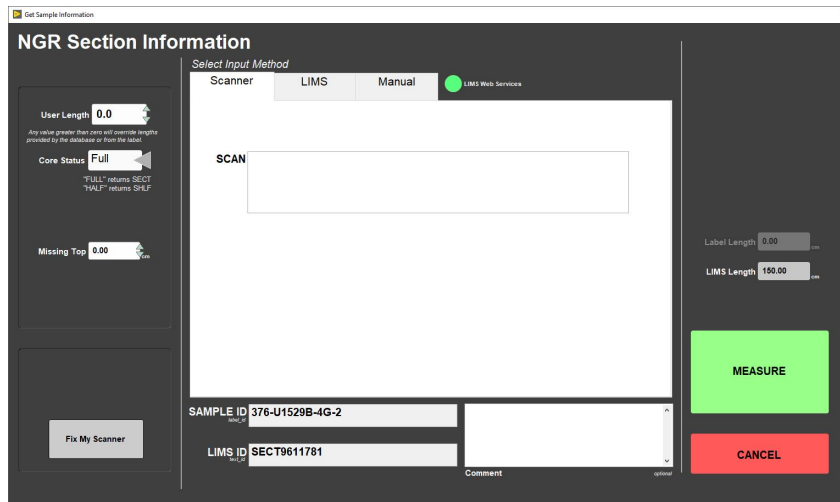

Figure 30. NGRL Core Analyzer Screen, Ready to Start Scan.
3. Open NGR Core Analyzer (Fig. 30), which is usually found on the NGR's workstation desktop. If the configuration files are corrupted or missing, load them from the Main control menu by choosing Configuration.
4. Press the Scan button (Fig. 30, #1) on the NGR Core Analyzer screen to initiate a run. The Sample Information dialog window will appear (Fig. 30, #2).